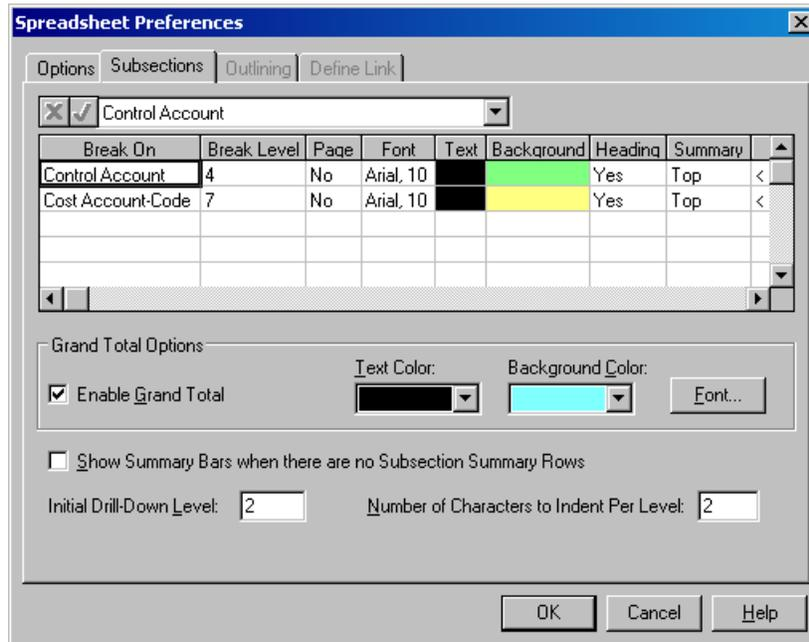

Figure 2 - Screenshot of Subsection Definition
- 16) Make NOVA_SPRDSHT_200 the active view and apply the Change Request filter to it. Then enable subsections for the view and verify that the view is subsectioned by Control Account and Chargeable Task Code at the desired level. (See Figure 2 for a screen shot of the subsection definition.) Ensure that Headings, Summary, and Grand Totals are all